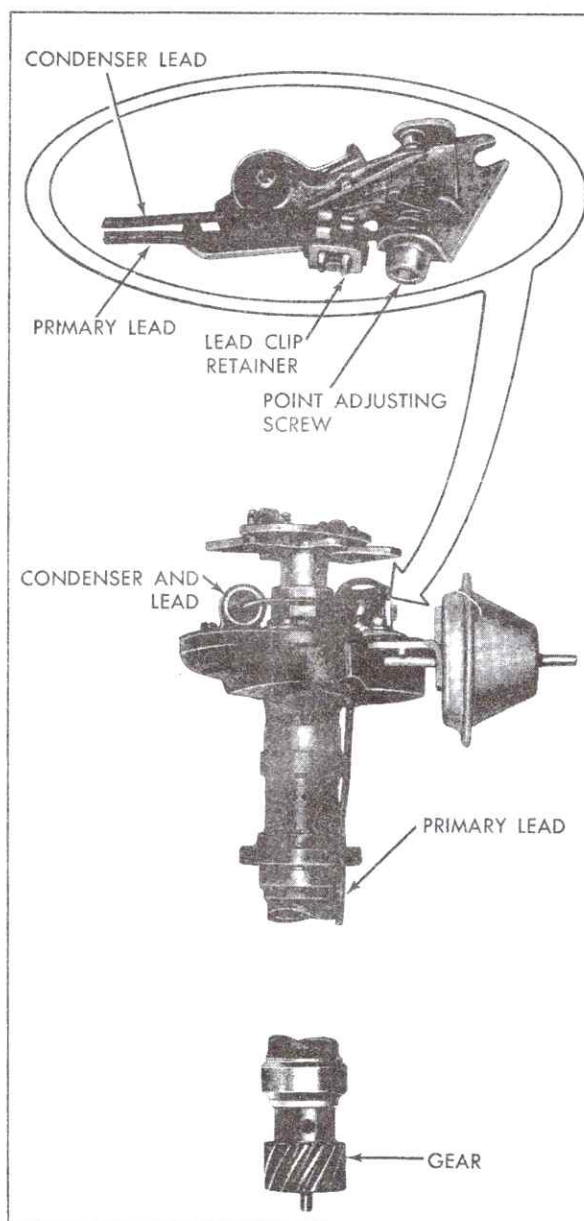

Fig. 6-20 Point Lead Retainer and Drive Gear
2. Install capacitor lead, primary lead and secure with spring clip retainer, Fig. 6-20.
9. Install capacitor and primary leads as shown in Fig. 6-20.